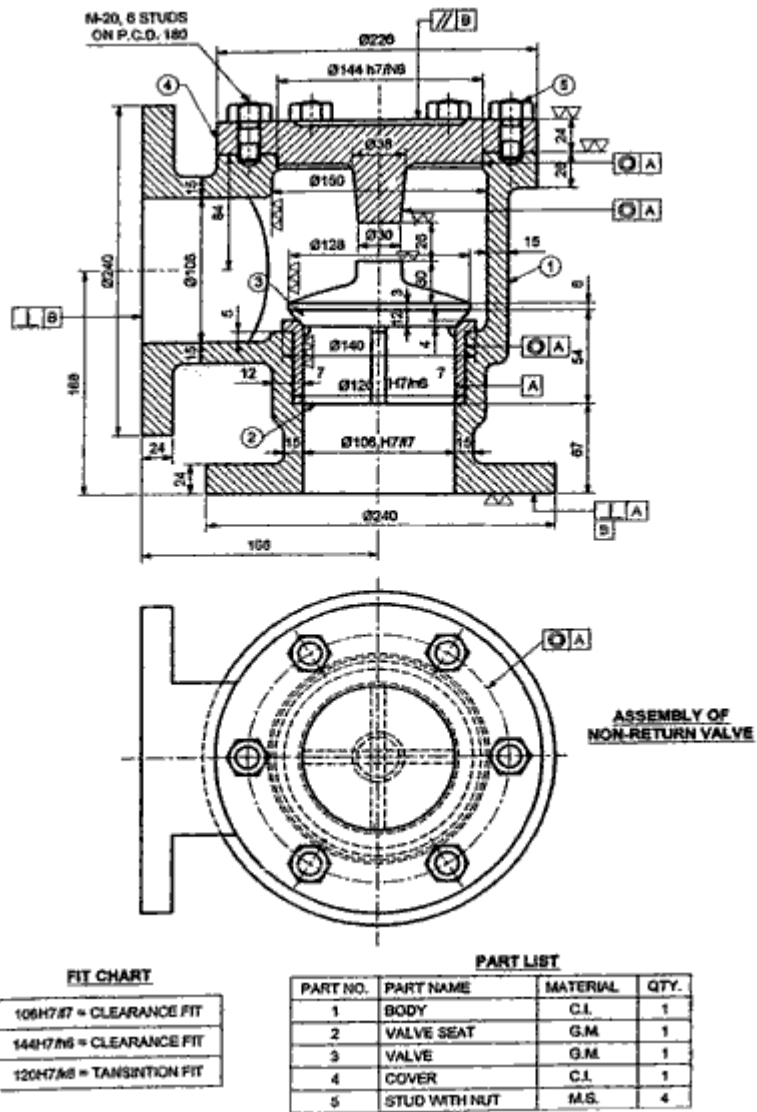

Fig. No. 2 – Assembly of Non-Return valve
b) Fig. No. 2 shows assembly of Non-Return valve. Draw detailed drawing of the following:
i) Body – Sectional Front view and Top view. (10)